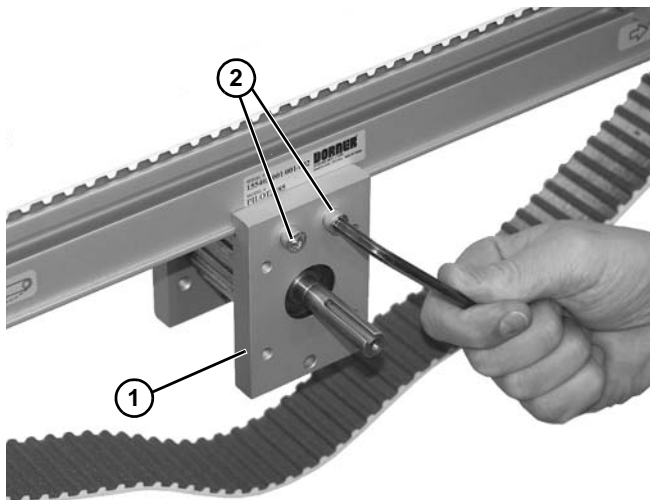

Figure 89
8. Secure center spindle assembly (Figure 89, item 1) with two screws (Figure 89, item 2) on each side of mounting block. Do not tighten.
11. Tighten socket head screws (Figure 89, item 2) to 60 in-lb (7 Nm).